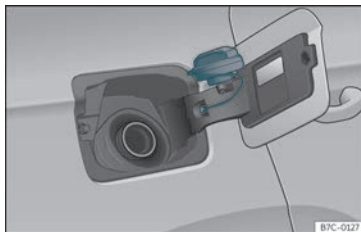

Fig. 197 Fuel tank flap with tank cap attached.
- Place it in the space on the hinge of the open flap»» Fig. 197 .